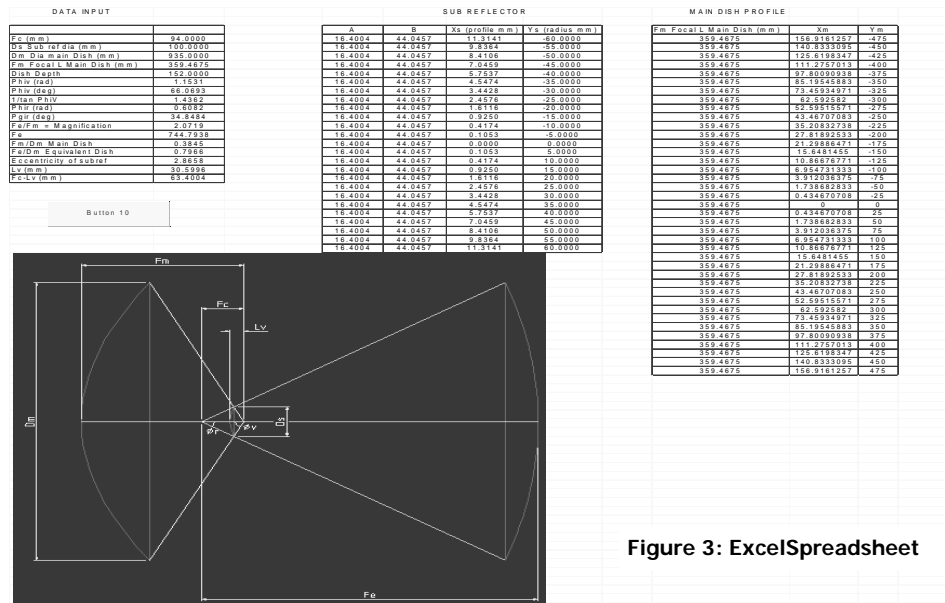

Figure 3: ExcelSpreadsheet
**Figure 3** shows the layout of the Excel screen. User data input is on the left hand side while to the right are data tables for the sub reflector, actual dish parabola and virtual dish parabola profiles. The dish and virtual dish profiles tables are given to allow the user to draw out the whole scheme if required. I am currently writing an AutoCAD Lisp program to take this data and draw a 1:1 layout within the CAD system.